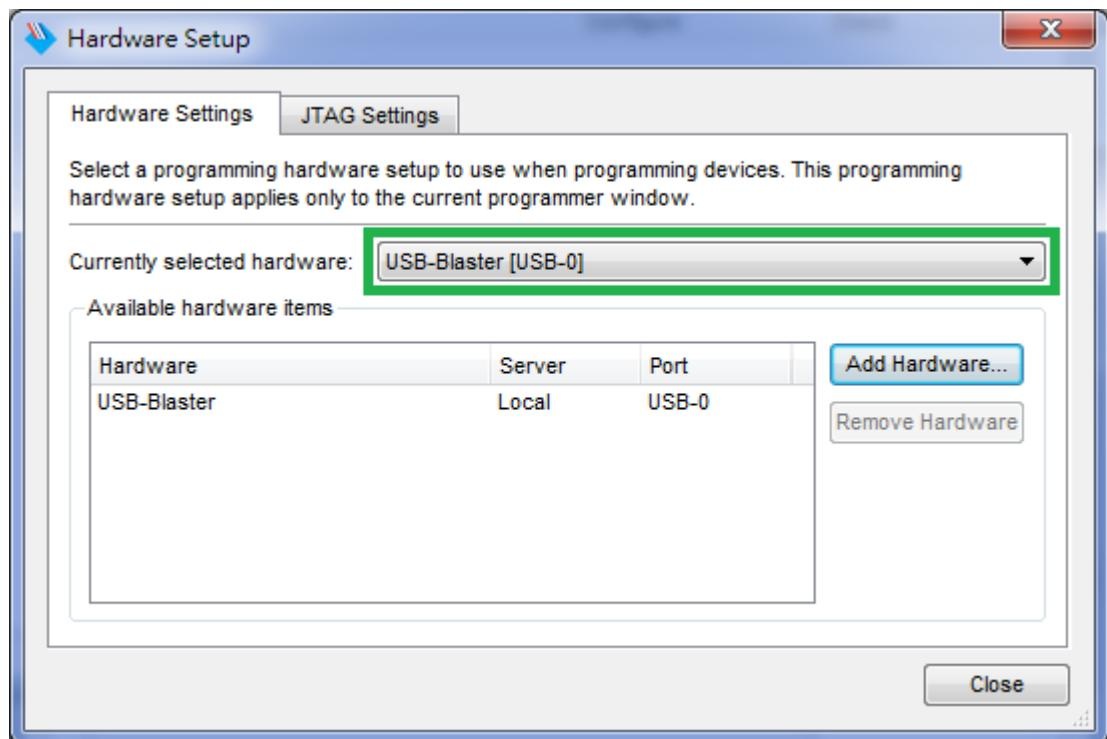

Figure 3-3 Hardware Setting
3. If it is not already turned on, turn on the USB-Blaster [USB-0] option under currently selected hardware and click “Close” to close the window. See **Figure 3-3**.